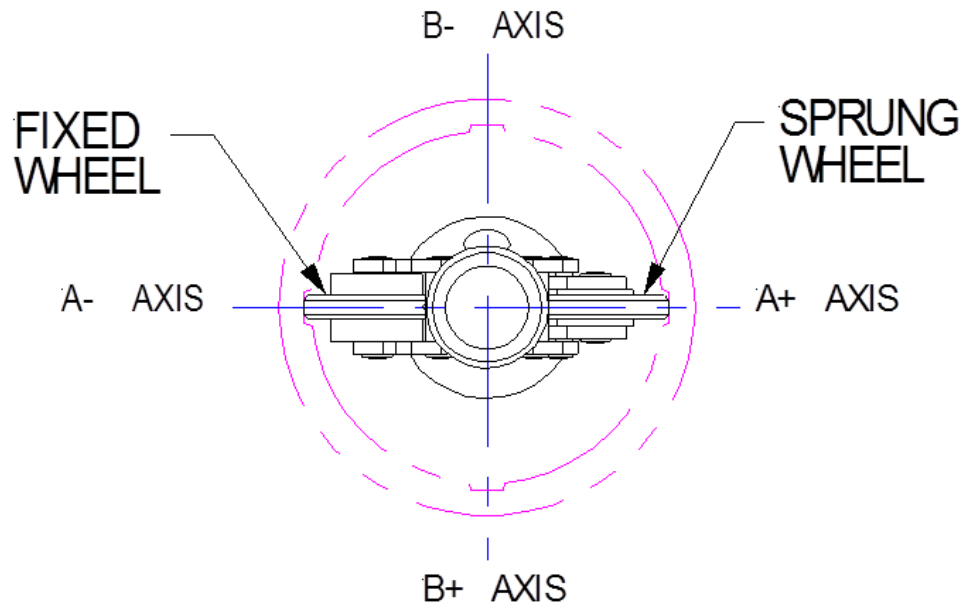

FIGURE 2-1 MEMS IPI ORIENTATION
- 5 Align the A-Axis wheels with the anticipated failure direction. Insert the wheels in the inclinometer casing grooves. The A+ (sprung wheel) should be oriented towards the anticipated movement. Refer to Figure 2-1.